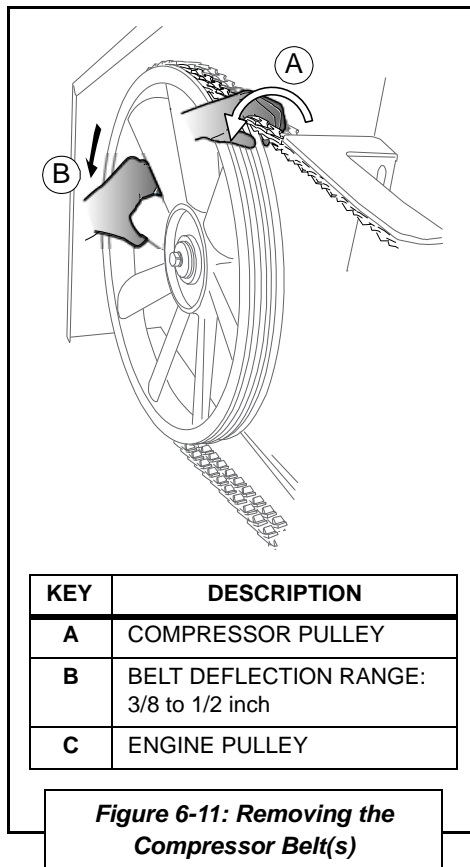

Figure 6-11: Removing the Compressor Belt(s)
3. In order to remove a link or replace a belt, the belt has to be removed from the pulleys. Refer to **Figure 6-11**: For belt removal, grip the outer belt with the right hand.